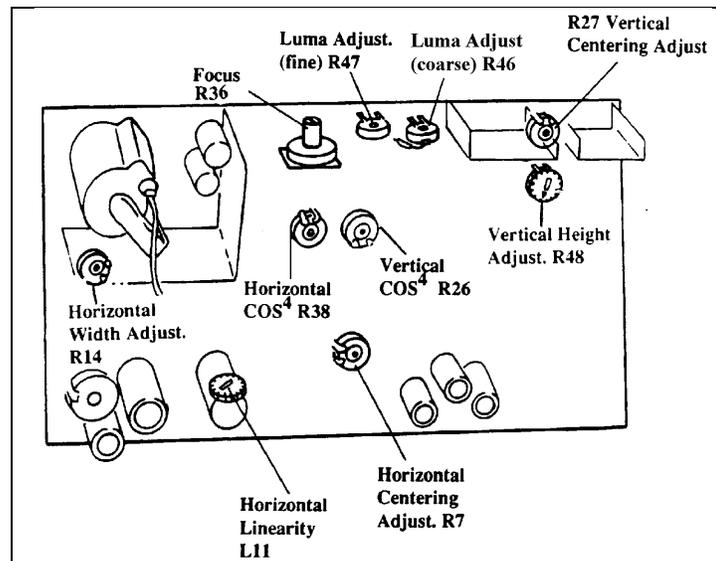

Figure 4-38. Alignment Adjustments on CI-5000 Monitor Board
2. Set the R46 luma adjustment (Figure 4-38) to make the image plainly visible on the ground glass of the alignment gauge (approximately 6 f-1 or 3mV).
1. Make the following adjustments on the monitor board (Figure 4-38):
3. Set R27 and R7 on the monitor board (Figure 4-38) to their nominal (center) positions.